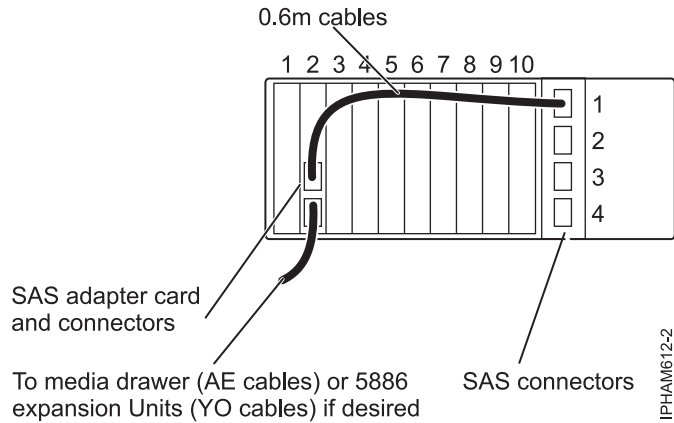

Figure 12. Physical cabling example: One hard-disk-drive partition with 18 disks, a single SAS adapter, and hard-disk-drive partitions switch position 1
<p>One hard-disk-drive partition with 18 disks and a single SAS adapter.</p>	<p>For related physical cabling, see Figure 12 on page 15.</p> <p>Operating system: AIX or Linux</p> <p>SAS adapter: One (FC 5901) - PCIe Dual - x4 SAS Adapter</p> <p>Hard-disk-drive partitions switch: position 1</p> <p>Cables: One (FC 3688) - SAS cable (AT) 0.6 meter.</p>